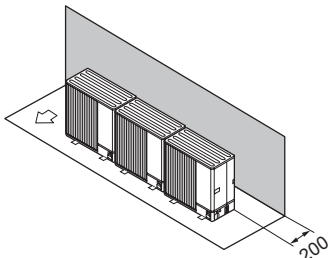

Fig. 2-30
- ① Obstacles at rear only (Fig. 2-30)